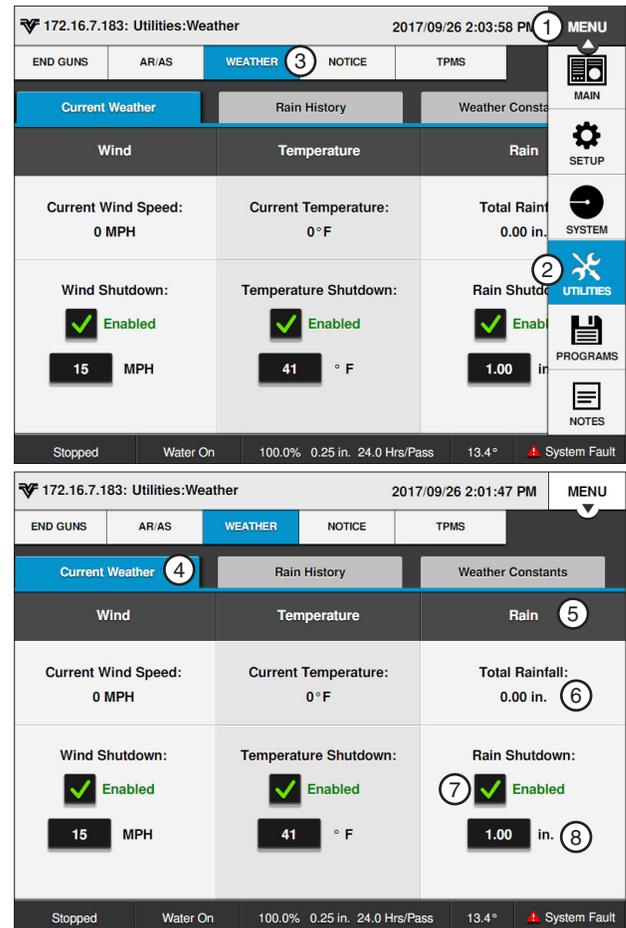

Figure 73-1 1. Menu 5. Rain
1. Push **Menu**, **Utilities**, **Weather** and **Current Weather** to display the Current Weather screen. Refer to Figure 73-1.
Check the **Rain Shutdown** checkbox to enable the rain shutdown function and uncheck the checkbox to disable the rain shutdown function. Refer to Figure 73-1.
3. Using the numeric keypad, enter the number of inches. Example: 1, 5, 0 for 1.50. Refer to Figure 73-1.